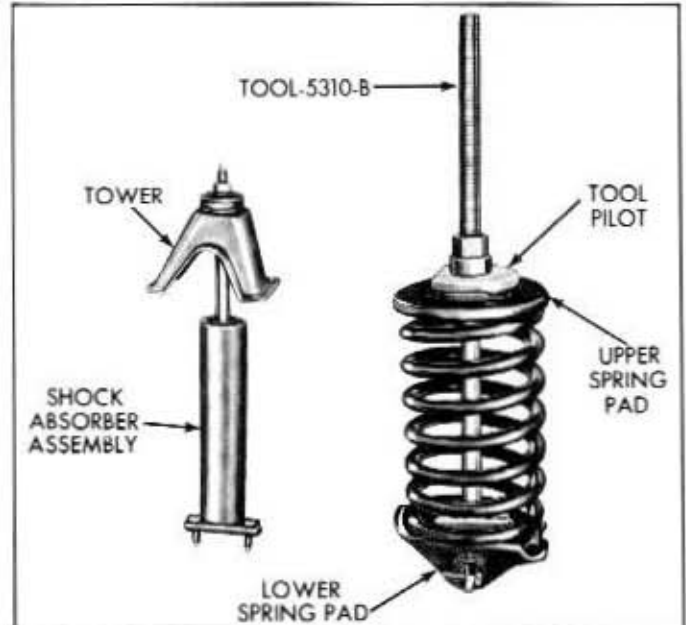

Fig. 3A-18—Tool Assembled to Spring and Plate—(60C-418)
- lower plate indexed as shown in figure 3A-17. While holding the assembly (by the lower spring plate (pad) in a vise, compress the spring to 10-11 inches spring height. See figure 3A-17.